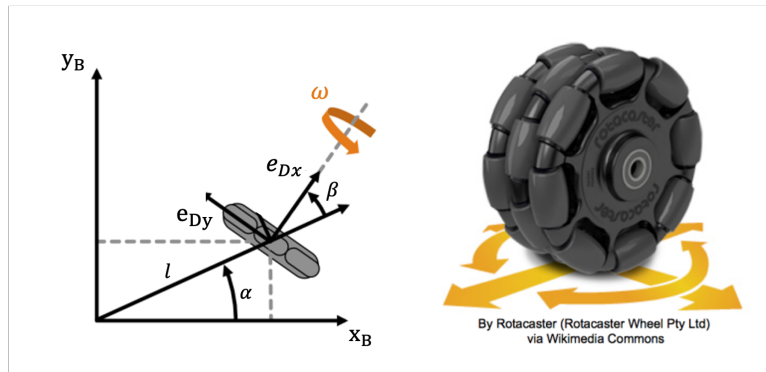

Figure 1: Kinematic parameterization in base frame and physical design of a 90 degree Swedish wheel.
First, we consider a single 90 degree Swedish wheel and derive its constraint equations. Consider the problem parametrization shown in Fig. 1. For convenience, we adopt polar coordinates for the wheel location in the robot base frame $\mathcal{F}_B$, i.e. the angle α and distance l to the wheel center, and the relative wheel orientation β . The radius of the big wheel is r . Recall that the Swedish wheel has one large wheel, and many small freely-spinning wheels around its circumference. The only actuator available is the one that spins the large wheel (primary rotation axis). Movement parallel to the primary wheel rotation axis is free due to the rolling of the small wheels. Derive the rolling constraints c consistent with the form
1. (Python) Define the individual wheel parameters α_i, β_i for the three wheels according to shown arrangement and the definitions in Fig. 1, and enter the values in the dict provided in the code. Use $r_i = 0.1\text{m}$, $l_i = 0.25\text{m}$.